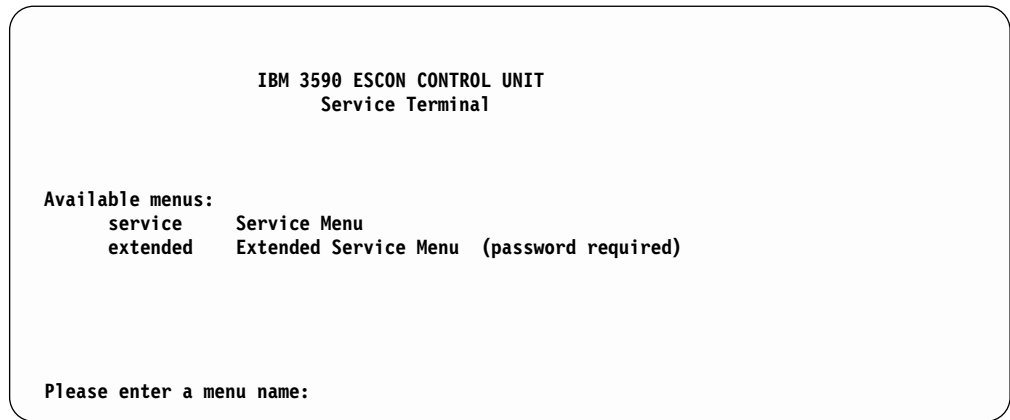

Figure 72. First Service Terminal Maintenance Screen
8. In the window select **3590 Tape Subsystem** and the following screen will appear (see Figure 72 on page 305).
9. At the prompt, from the screen shown above, (see Figure 72) type **service** and press **enter**
This is the first screen shown after selecting the **Service Menu** from the IBM 3590 CONTROL UNIT screen (see Figure 72).